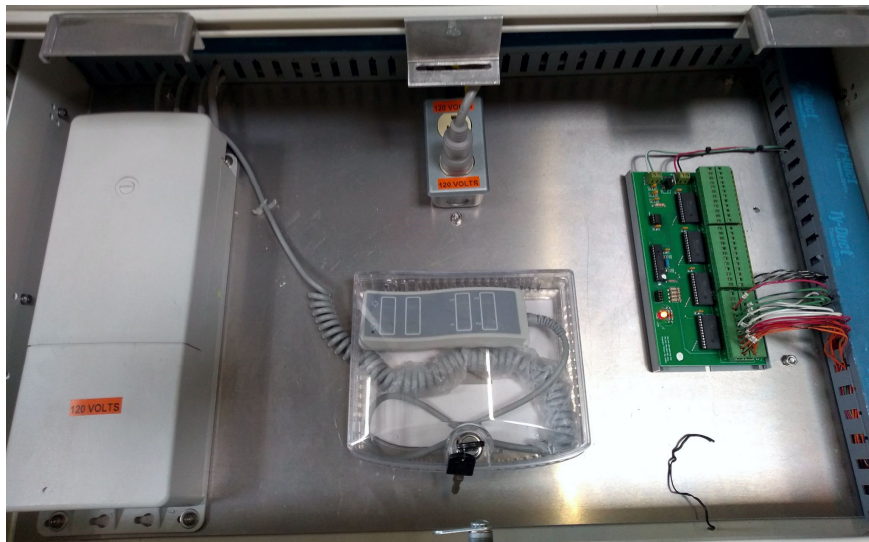

Figure 4-14 MCL Controller at Front Exit
The motorized chamber lift system (MCL) affords the ability to raise the top half of the furnace chamber to allow for inspection, cleaning, repair or to retrieve lost parts. The system consists of four (4) 24Vdc linear actuators synchronized by a controller with remote pendant. The Max1 is a powerful and very quiet and compact DC linear actuator that raises the chamber top half from a controller mounted in the Front Exit bay under the furnace Unload Station. The range of motion is 230-250 mm (9-10 inches), see Figure 4-11 and Figure 4-14.
Using the remote pendant to open and close furnace chamber, Figure 4-14: